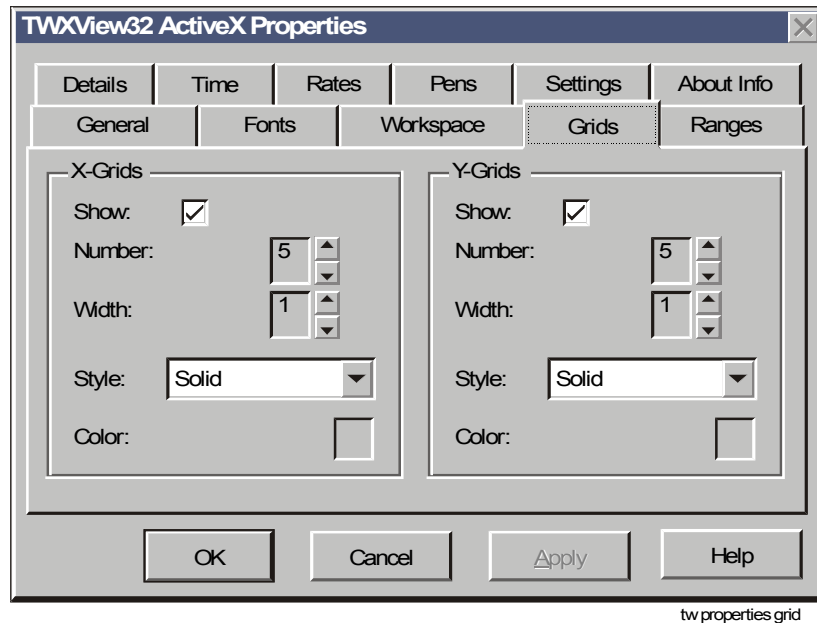

Figure 14-9: TWXView32 ActiveX Properties Dialog Box: Grids Tab
2. Select the Grids tab (Figure 14-9).